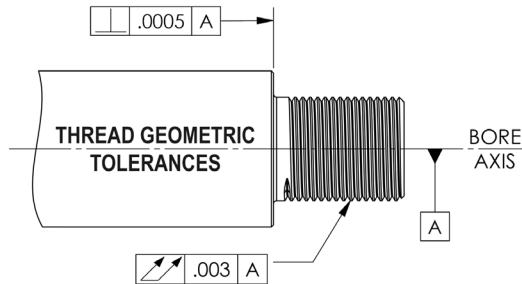

Fig. 2
**IMPORTANT:** Fig. 2 outlines barrel thread geometric tolerances required for installation, most factory barrel threads should satisfy these requirements. For thread specifications and dimensions please visit: [www.precisionarmament.com/manuals](http://www.precisionarmament.com/manuals)